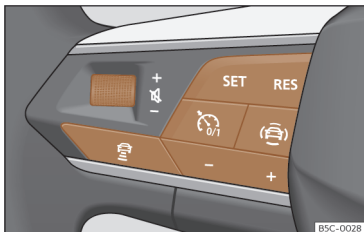

Fig. 161 On the multifunction steering wheel: buttons to operate the ACC
Your vehicle has ACC if it has a configuration menu in the infotainment system»» page 91 and if it has the ACC function buttons on the multifunction steering wheel»» Fig. 161.
- To start regulation, press the button **SET** >>> **Fig. 161**.
To program the speed, press the + or - >>> **Fig. 161** buttons to the desired speed. The
- Press the button and then the button + or ->>> **Fig. 161**.